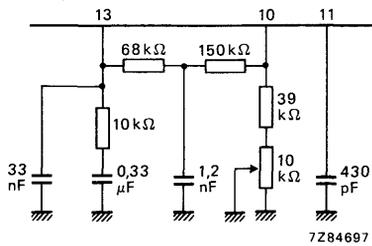

Fig. 2 PLL-filter for  $\alpha_2 = 70$  dB at  $V_P = 15$  V (see also Fig. 1).
3. PLL-filter for reduced intermodulation ( $\alpha_2$ ); see Fig. 2.